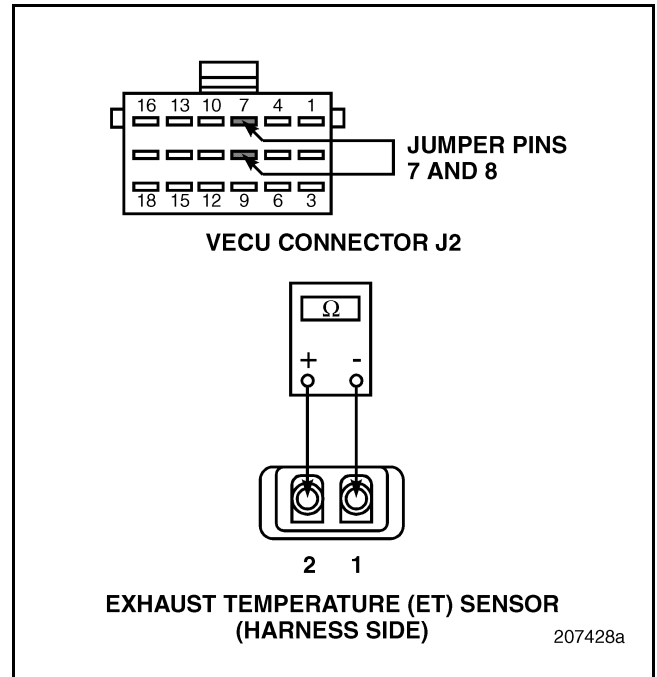

Figure 345
2. Disconnect the Exhaust Temperature (ET) Sensor connector.
4. Connect a jumper between VECU harness connector J2 pins 7 and 8 (see Figure 345).